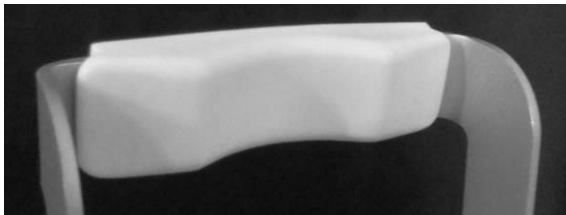
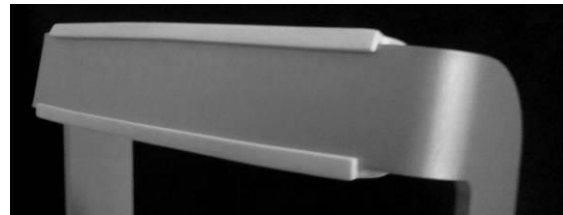

Fig. 7 – Forehead-rest patient side
Fig. 8 – Forehead-rest rear side
- attach the silicone forehead-rest (included in the tool box) on the forehead-rest frame as shown in the pictures below (Fig. 7 and Fig. 8) **[available for 2013 Edition only]**;